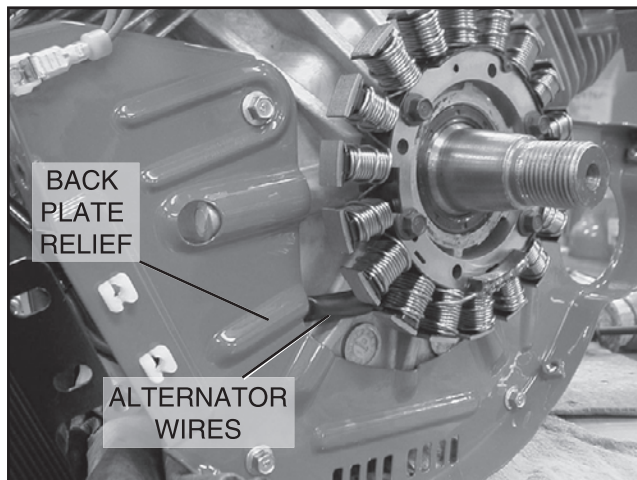

Figure 13-10. Install Alternator
1. Install alternator, Figure 13-10.